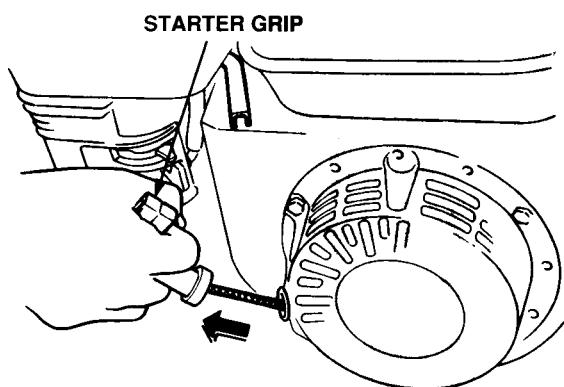

Figure 22. Starter Grip
6. Grasp the starter grip (Figure 22) and slowly pull it out. The resistance becomes the hardest at a certain position, corresponding to the compression point. Pull the starter grip briskly and smoothly for starting.